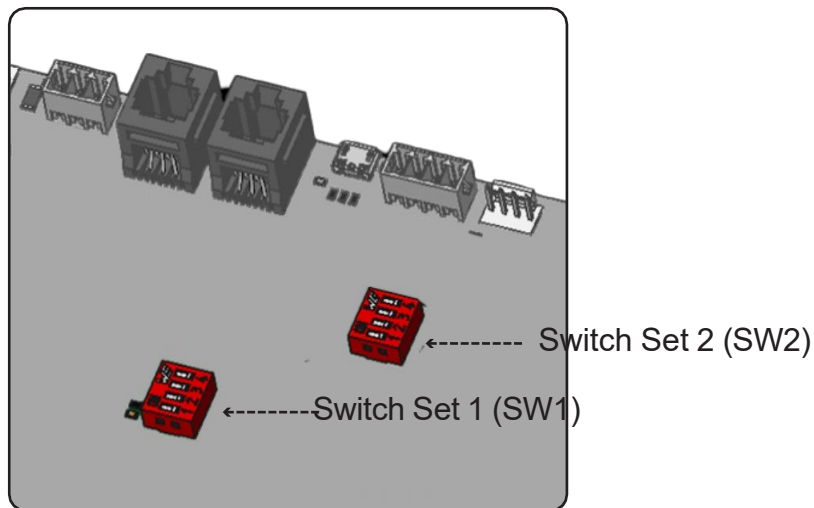

Figure 4: Location of dip switch sets on agent board
- **If the maximum total input current supply to the unit is 80A then make sure that dip switch 1 is down.** In this configuration, the maximum combined output on both charging plugs will not exceed 80A. See Figure 4 above.
- **If the maximum input current supply to the unit is 160A, then set the dip switch 1 to up.** In this configuration, the unit will be able to charge two vehicles at 80A concurrently. See Figure 4 above.